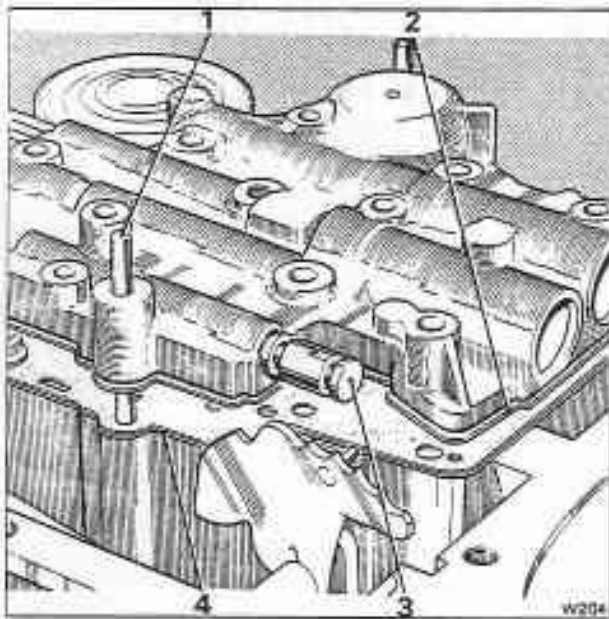

Fig. T13-4 Fitting the control valve unit
3. Using two guide pins screwed into the casing, fit the control valve unit into position (see fig. T13-4), with a new valve body/spacer plate gasket.